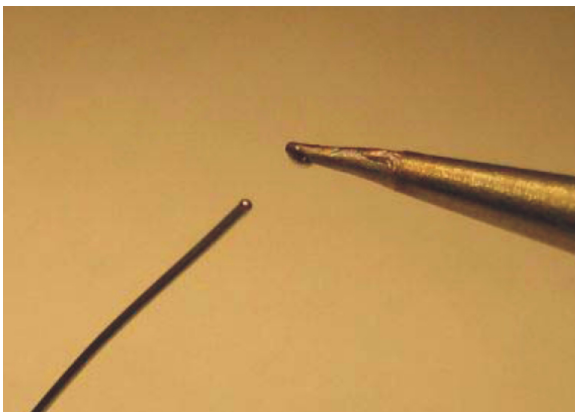

Figure 3-19 Small amount of solder added to ZIF Tip of soldering iron
- 3 Clean the soldering iron tip and add a small amount of solder to the very tip. This may take a few tries because the solder may tend to ball up and move away from the tip. **Figure 3-19** shows a small amount of solder on the tip of the soldering iron.